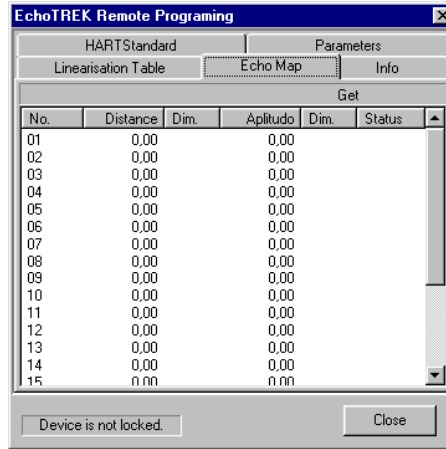

Figure 7
- Echo Map viewing(Figure 7)
Clicking on the relevant tab the blank table of the Echo-Map will appear (Figure 7). For viewing actual Echo-Map of the relevant field device click on speed button *Get*.